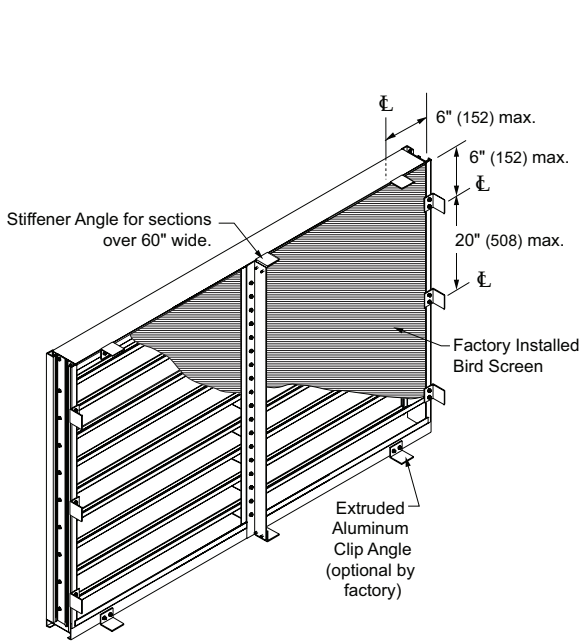

Fig. 2.1 Clip Angle - Single Section Louver
1. Locate all anchor clip angles [Minimum 1-1/2" x 2" x 1/8" thick x 2" long (38 x 51 x 3 x 51)] as required to establish proper louver depth and position. See fig. 2.1 for required spacing. (Clip angles are by others or optional by All-Lite).